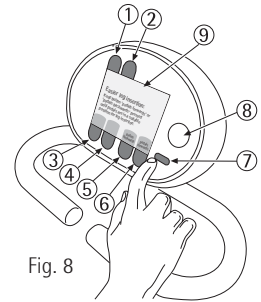

Fig. 8
8. **End of training/analysis:** Before you finish your training you are advised to have your legs moved passively again for a few minutes in order to loosen up your muscles. In order to stop the training press the red "start/stop" button ⑧ twice (see figure 8). By pressing the red start/stop button only once you activate the pause function. Press then the button "analysis" ③ before the display ⑨ switches off. The analysis will show you e.g. how long you have been training with the assistance of the motor (passively) and with your own strength (actively).
4. **Start of training:** Press the red "start/stop" button ⑧ (see figure 8) and then the button "arm trainer" ③. The hand grips ⑰ begin to move slowly. Let the motor move your arms passively in a short "warm-up" phase first.